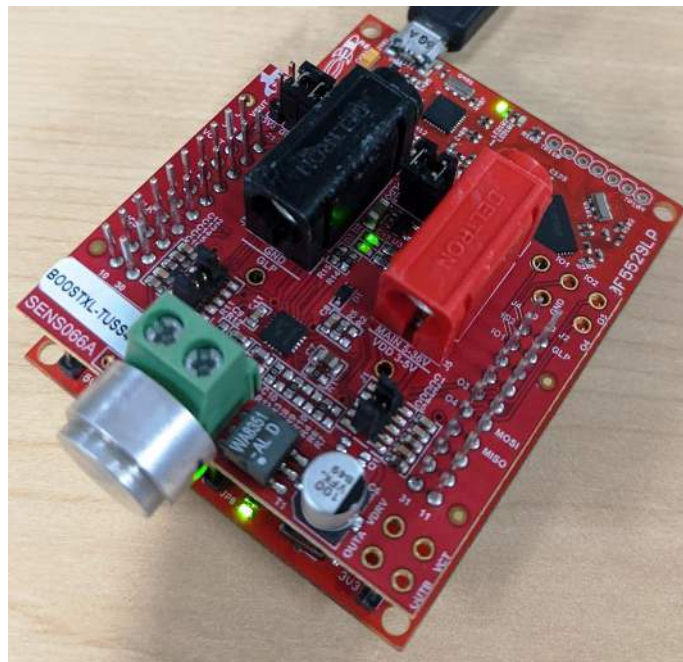

Figure 3. EVM Boards - Assembled
2. Position the power mode jumper for the intended use-case (see Figure 3).
Figure 3 shows the assembled solution for the BOOSTXL-TUSS44x0 board configuration.